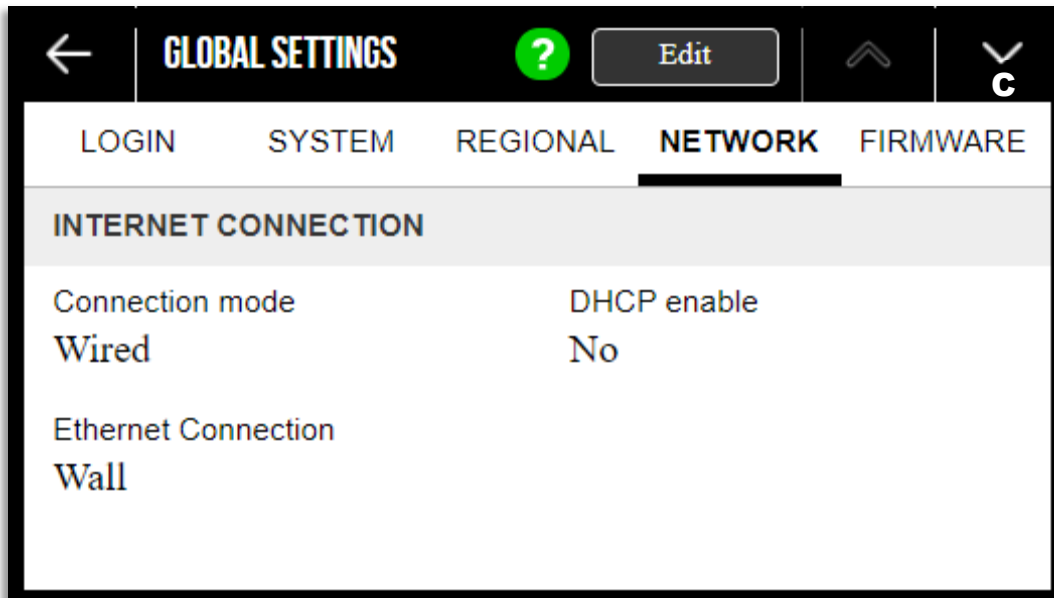

Figure 10 Network Tab
C. Using the down chevron **C** in Figure 10, page down three times. You should arrive at the screen below. OPTICS RE is enabled by default. Write down the **Mac Address** (**D** in Figure 11).